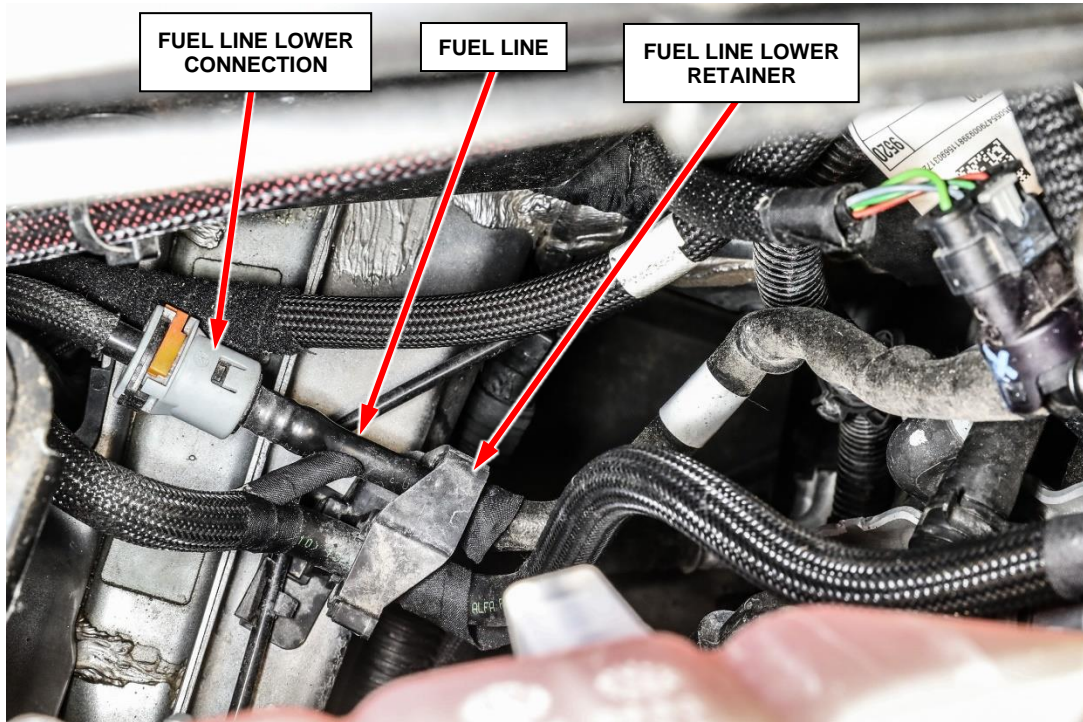

Figure 10 – Fuel Line Lower Portion
12. Release the fuel line from the lower retainer (Figure 10).
18. Install the **NEW** front fuel supply line, connect the quick connectors and engage the locks at both ends (Figures 10 through 13).
20. Secure the fuel line in both upper and lower retaining clips (Figures 10 and 12).